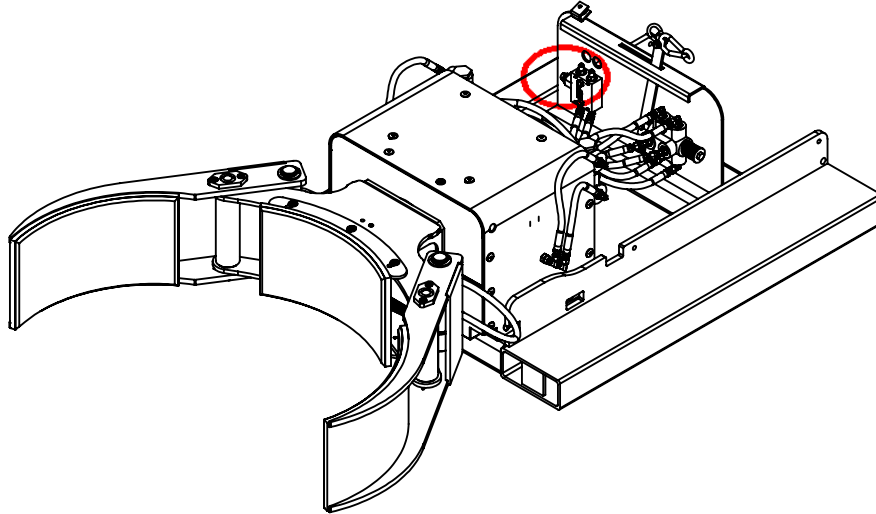

Figure 2
4. Run selector valve rope to operator. (shown in Figure 2)